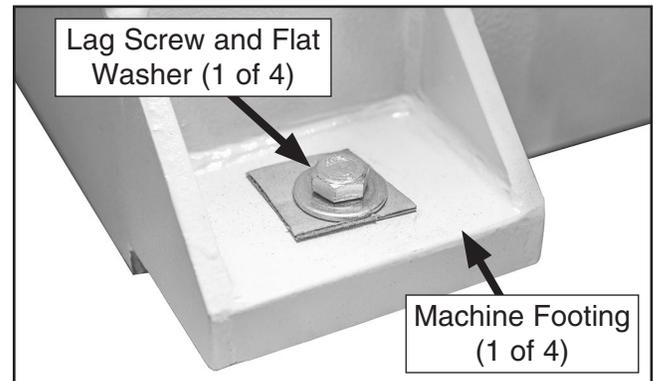

Figure 14. Machine secured to shipping pallet.
3. Remove (4) lag screws and flat washers that secure machine to shipping pallet (see **Figure 14**).